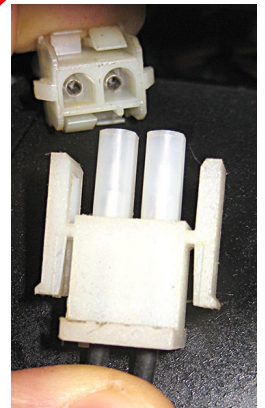

Figure 7
9. Disconnect 2-pin solenoid connection behind the far-left control box (see Figure 7).